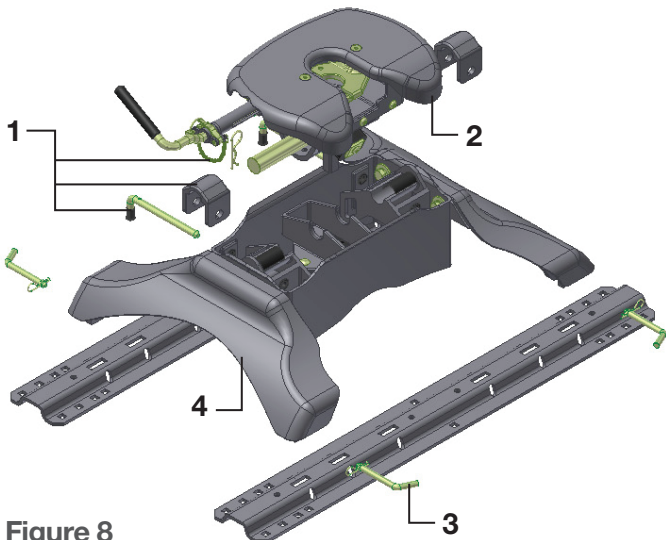

Figure 8
**NOTE:** It is helpful to reinstall the caps, pins & clips. Follow the four steps below and refer to Figure 8 for assistance.